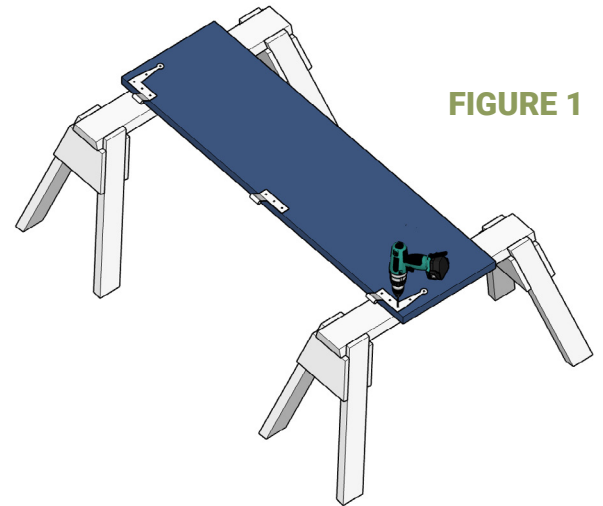

FIGURE 1
2. Fasten hinges even with the outside edge of shutter. Pre-drilling holes is recommended. (Figure 1). Use caution not to drill all the way through shutters.